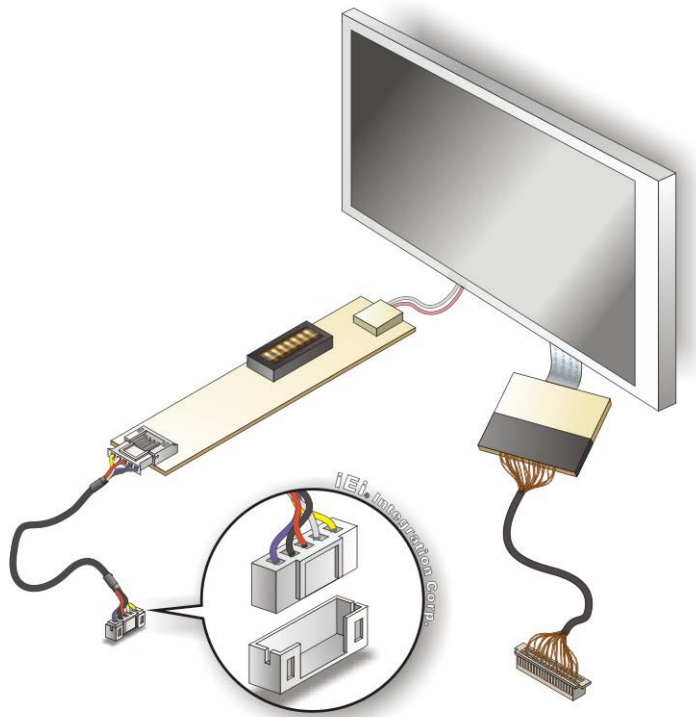

Figure 4-11: Backlight Inverter Connection
Step 4: Connect backlight connector. Connect the backlight connector to the driver TFT LCD PCB as shown in **Figure 4-11**. When inserting the cable connector, make sure the pins are properly aligned.